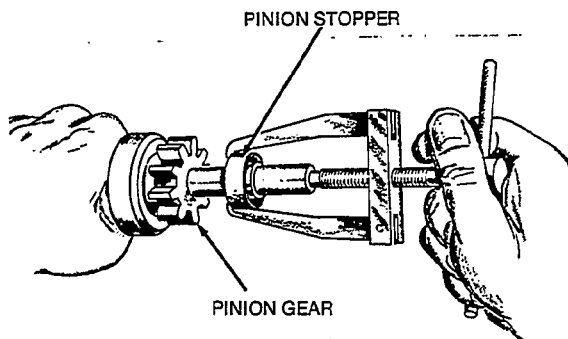

FIGURE 46. INSTALLING PINION GEAR AND CLUTCH
2. Slide the pinion gear and clutch assembly and the pinion stopper onto the armature shaft. Position the retaining ring in its groove on the armature shaft, and secure the pinion stopper over it using a puller such as that shown in Figure 46.